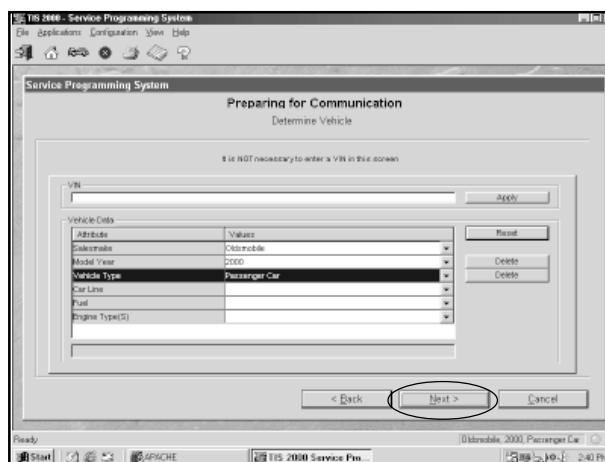

Figure I-18, Preparing for Communication / Determine Vehicle screen
4. At the Preparing for Communication/Determine Vehicle screen (Figure I-18) complete all terminal-directed data until Next is highlighted (vehicle data will vary).